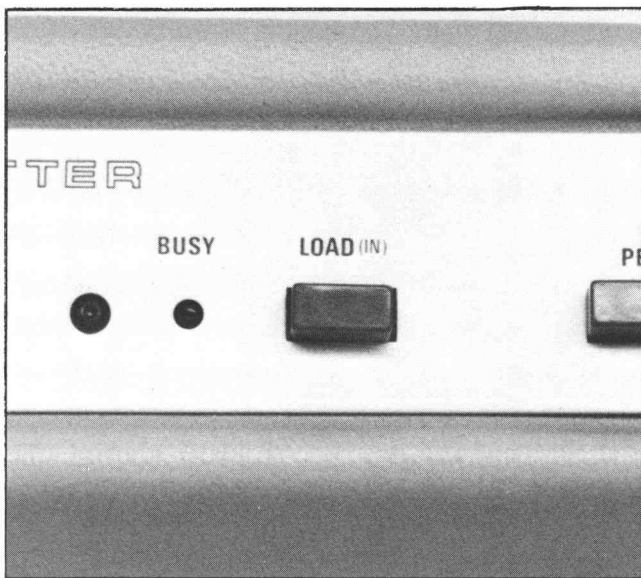

Fig. 3-2. LOAD button.
1. Press the front panel LOAD button to move the pen carriage to the right hand margin. Turn the POWER switch off, and disconnect the power cord (Fig. 3-2).